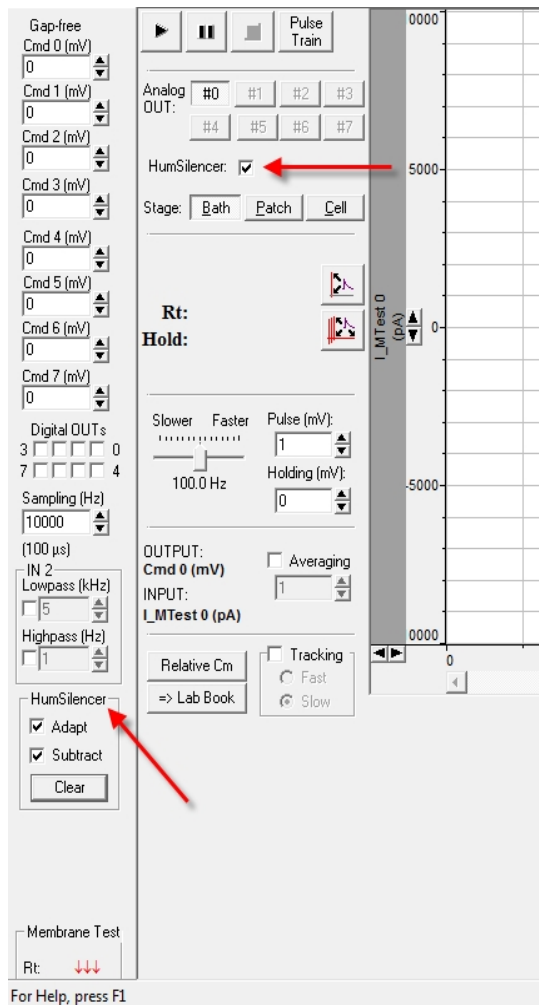

Figure 4-8: HumSilencher system controls in the Real Time Controls panel and Membrane Test dialog
1. In the Membrane Test dialog, select the **HumSilencher** checkbox to turn on the HumSilencher Real Time Controls (Figure 4-8).